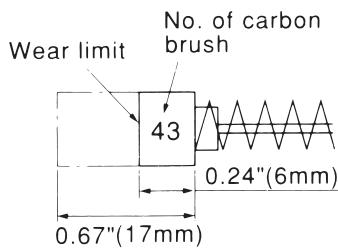

Fig. 4
## 4. Inspecting the carbon brushes(Fig. 4)
**NOTE :** Use HITACHI carbon brush No.43 indicated in Fig. 4.